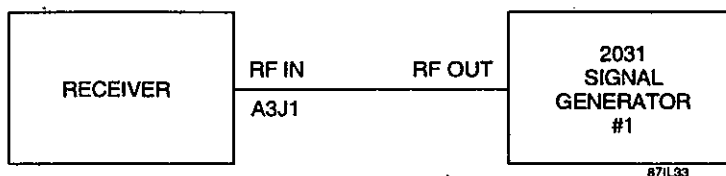

Figure 7-2. Front Panel Test Equipment Connections
1. Connect the WJ-8712P Receiver and test equipment as illustrated in Figure 7-2.